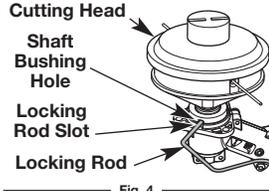

Fig. 4
2. Position the cutting head as shown (Fig. 4). Align the shaft bushing hole with the locking rod slot. Insert the locking rod into the shaft bushing hole.